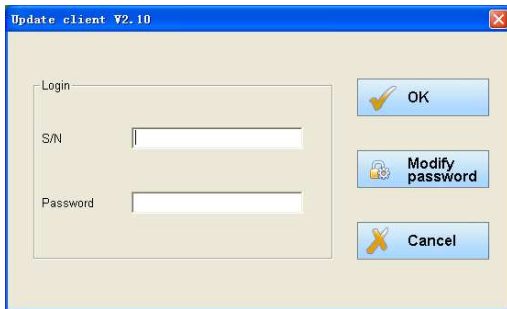

Fig 2-1 Login screen
Step1: Take out the SD card from main unit, plug it into the USB SD card reader and connect to PC. Step 2: Double click to run the **V30 update client** program on your PC and go to update screen as shown in Fig 2-1.